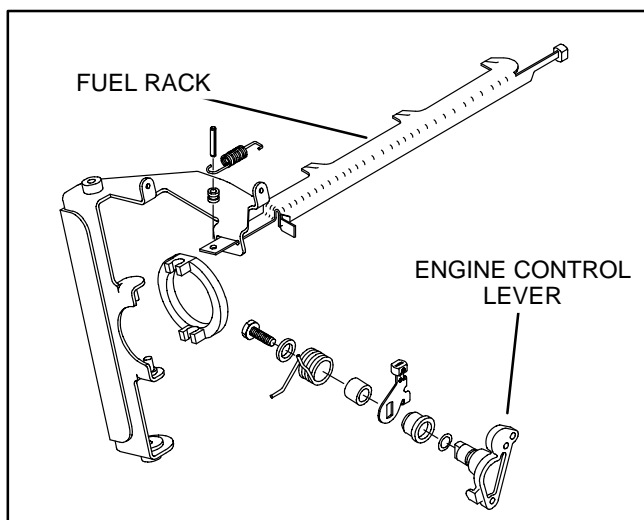

FIGURE 8-52. INTERNAL PARTS AND FUEL RACK WITH ELECTRONIC GOVERNOR
2. Make sure the no-fuel position (Page 8-47) and the "G" setting (Page 8-49) are correct. See Figure 8-52 for the internal parts and fuel rack with an electronic governor.